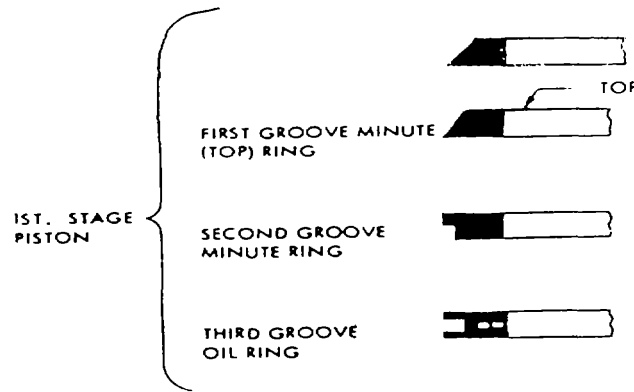

Figure 4-10. Compressor First Stage Piston Ring Installation.
- (1) Install piston rings (26, Fig. D-4) into ring grooves in piston (25, Fig. D-4) as shown in Figure 4-10.